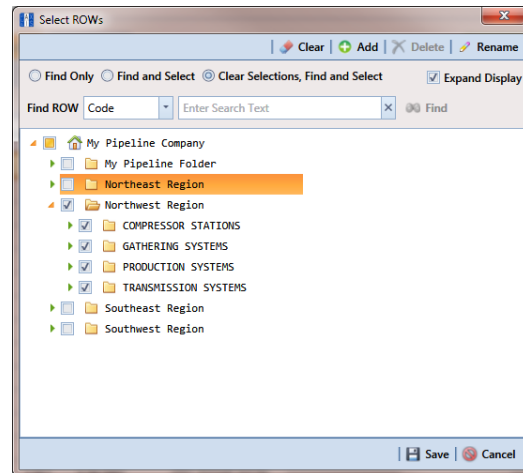

Figure 6-4. Select ROWs
- 1 Click the **Select ROWs** button  to open the *Select ROWs* window (Figure 6-4, page 168).
- 1 Click the **Select ROWs** button  to open the *Select ROWs* window (Figure 6-4, page 168). Select one or more pipeline segments with facilities you want to work with, then click  **Save** to close the window.